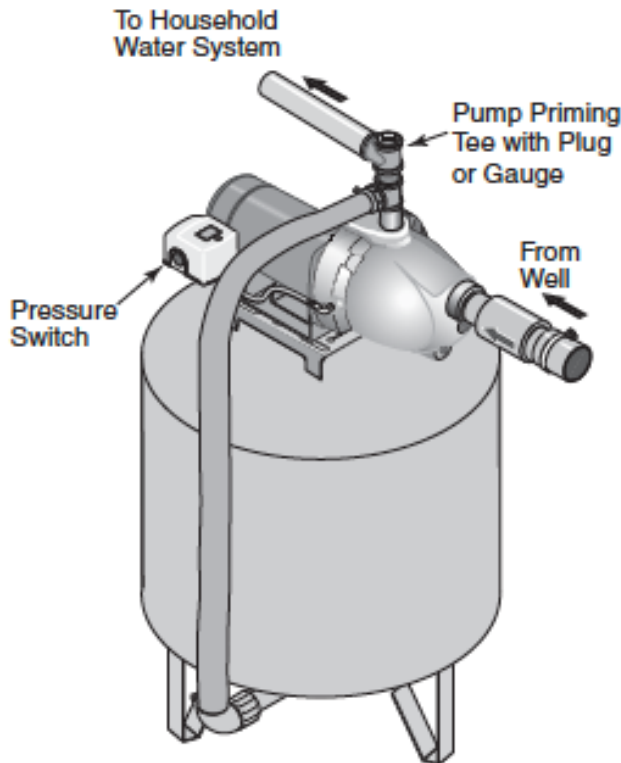

Figure 4: Pre-Charged Tank Connections
1. Install two tees in the pump discharge port (Figure 4). The pipe size must be at least as large as the discharge port.